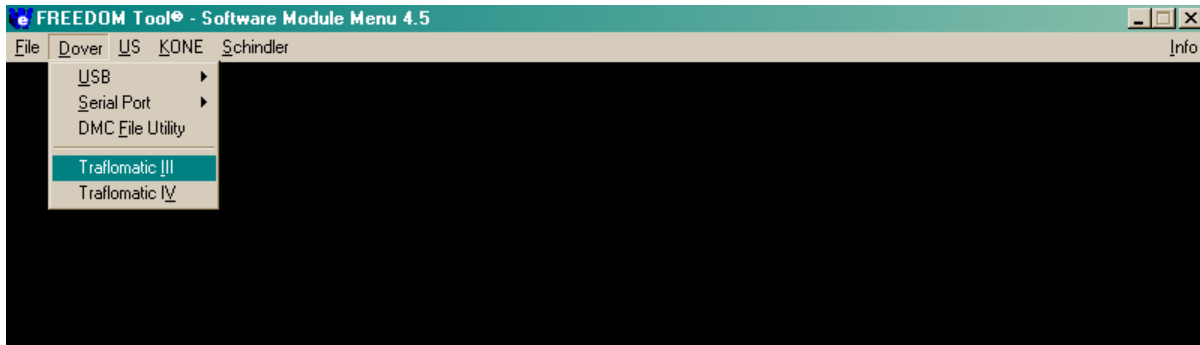

Figure 30
1. With the FREEDOM Tool selection window open, position the cursor directly over the appropriate system manufacturer menu item selection, and single click the pointing device button. This causes a drop down list to appear giving the user a choice of controllers. Refer to Figure 30.